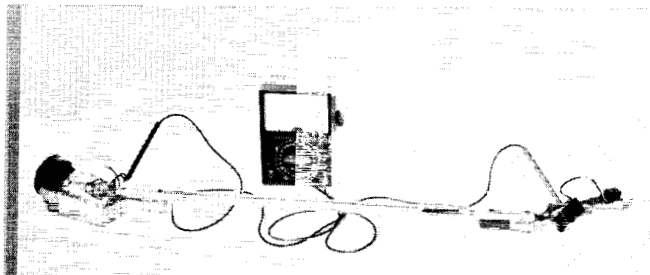

Figure 2.6
2.6 CHECK LOWER HARNESS (fig. 2.6)